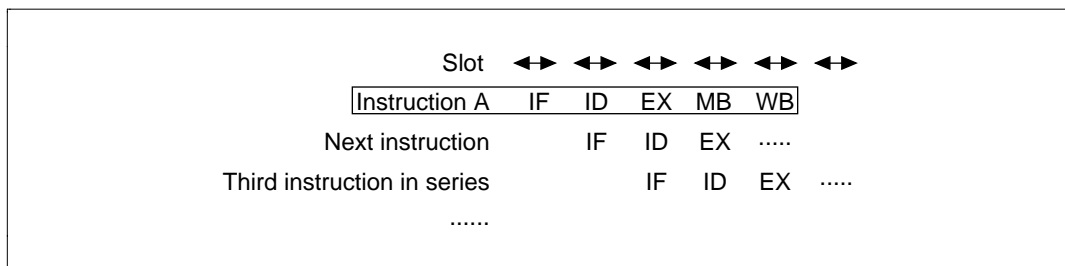

Figure 10-23 Memory Load Instruction Pipeline
The pipeline has five stages: IF, ID, EX, MA, and WB (figure 10-23). If an instruction that uses the same destination register as this instruction is placed immediately after it, contention will occur (see section 10.2.2, Effects of Memory Load Instructions on Pipelines). Also, see section 10.2.1, Contention between Instruction Fetch (IF) and Memory Access (MA), with reference to contention between the MA and IF stages of these instructions.
(3) Memory Store Instructions